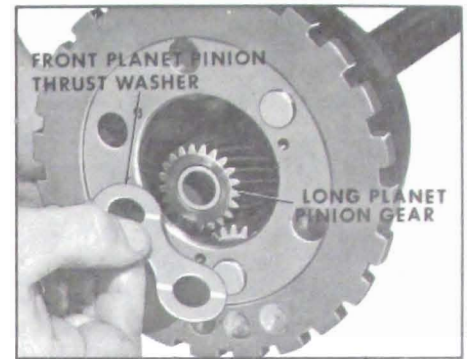

Figure 5-254
10. Remove front planet pinion thrust washer and long planet pinion gear. See Figure 5-254.